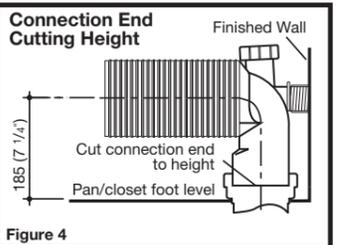

Figure 4
- 4- Fit Uniconnector to pan/closet connector and determine cutting length of connection end to provide standard seal and centre height of 185mm (7 1/4"). Allow 10mm (3/8") for bedding if required. Remove and cut to length, as detailed in Fig. 4.